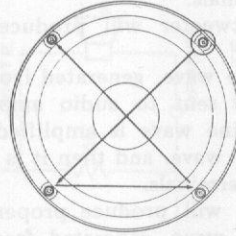

Fig. 2
5. Fasten speakers firmly in place by applying even stress to screws. (Fig. 2).